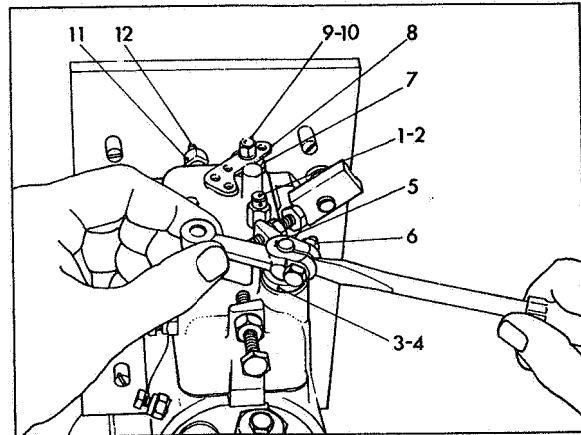

Fig 66 Fitting throttle arm
Assemble cover stud washers and cover stud nuts (1 & 2) Fig 66 and tighten. Assemble pad and throttle dust cap (3 & 4) and secure with throttle shaft circlip. Insert shaft key and whilst keeping a screwdriver blade wedged into the slot of the throttle arm (5) as shown, slide the throttle arm onto the throttle shaft, fully engaging the shaft key and tighten nut (6).